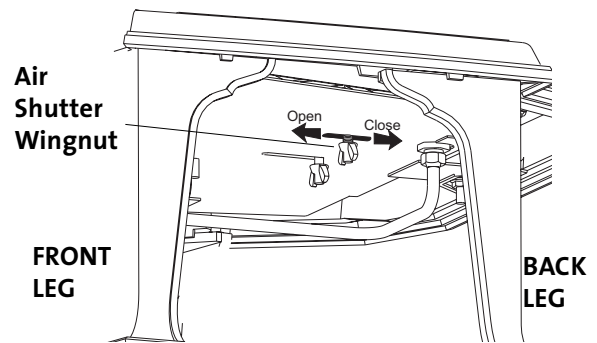

Figure 21. Locate and remove the Air Shutter wingnut from under the right side of the stove.
2. Remove the stove Top Plate (41).
5. Lift out the Burner Skirt (33). Tilt the skirt at an angle to clear the firebox sides and front.
6. Reach under the stove and remove the Air Shutter wingnut from its stud. As you face the right side, it is the one closest to you. See fig. 21.
You will need to adjust the shutter to the position that supplies the correct amount of air mixture to achieve the best flame picture with your particular installation. Start with the shutter stem at the midway position in the slot in the bottom of the stove. See fig. 21. Pushing the stem back will restrict air, while pushing it forward will open the shutter. Too much air will produce a lighter flame, while too little will promote long, dark flames and may promote sooting. Make adjustments in small increments. With some experimentation, you will find the